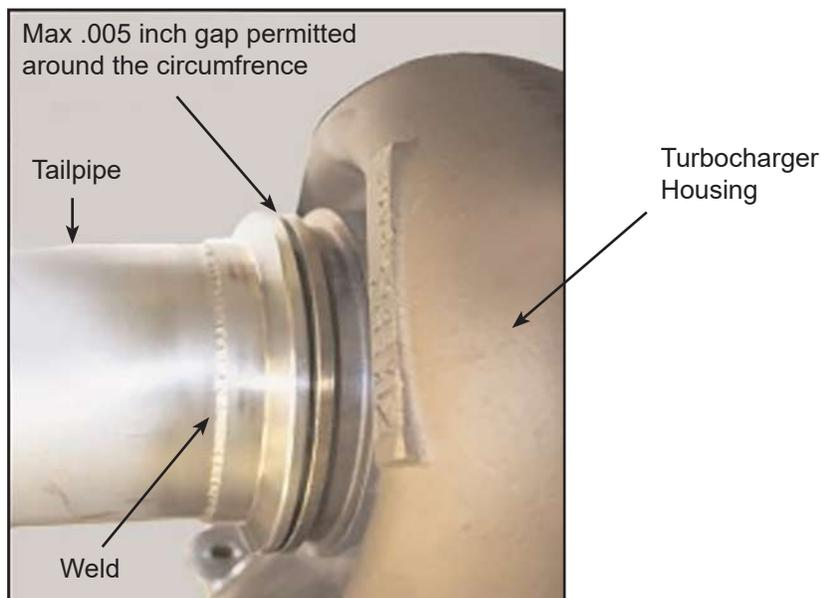

Figure 3-1 - Exhaust Exit Flange and Exhaust Tailpipe Flange Inspection
- (1) Conduct the installation when the engine is cool.
- (2) Prior to installation, ensure the V-band clamp and attaching hardware are free from any physical damage to include but not limited to; cracks, gouges, tears, bulges, indentions, and/or fractures.
- (3) Visually inspect the tailpipe and turbocharger exhaust exit flange for cracks, warps, gouges, nicks, grease dirt or deposits, including all weld areas in accordance with applicable engine maintenance manuals and service instructions .
- (4) Assemble all tailpipe and interface exhaust components, (e.g., wastegate), hangers and supports loosely in preparation for final torque.
- (5) Ensure alignment of tailpipe flange and turbo exhaust exit flange with maximum 0.005 in. gap prior to V-band clamp installation. Refer to Figure 3.1.